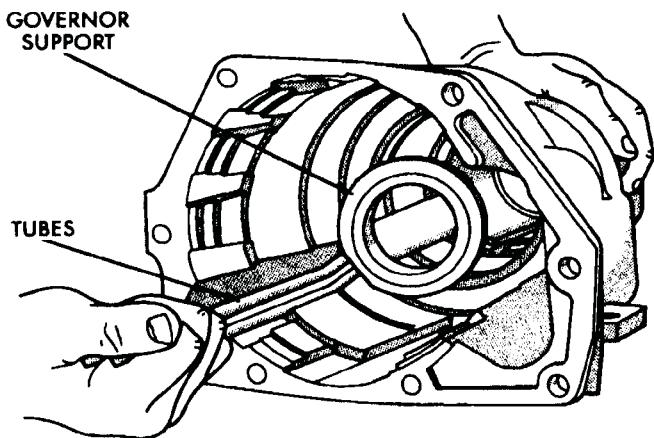

Fig. 72 Governor Support And Pressure Tube Installation
- (16) Install governor support and pressure tubes in case (Fig. 72).